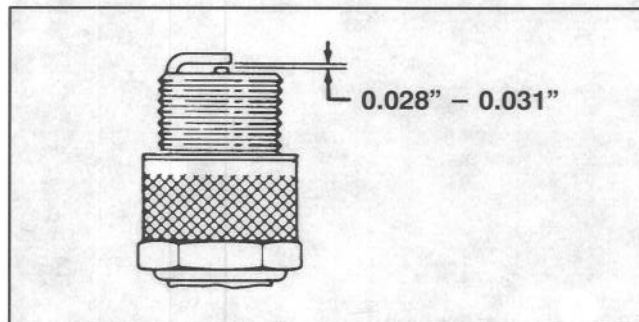

Figure 29
3. Set air gap at 0.028" – 0.031" (Fig. 29). Install correctly gapped spark plug and tighten firmly to 20 ft–lb.